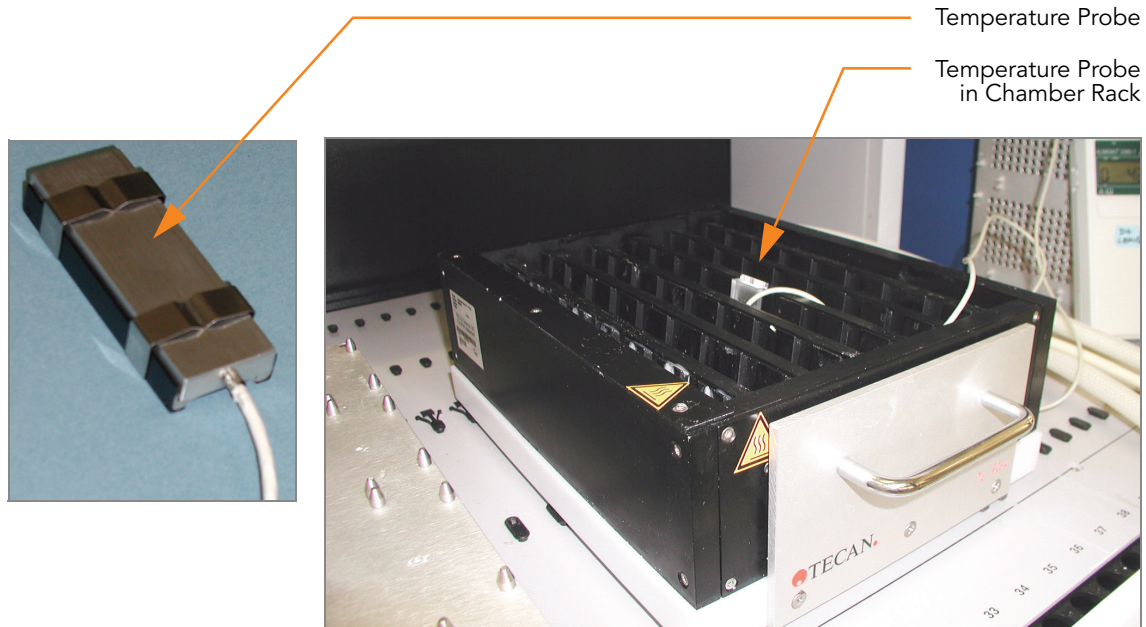

Figure 173 Illumina Temperature Probe in Chamber Rack
4. Use the Illumina Temperature Probe in several locations to ensure that the Chamber Rack is at 44°C (Figure 173).